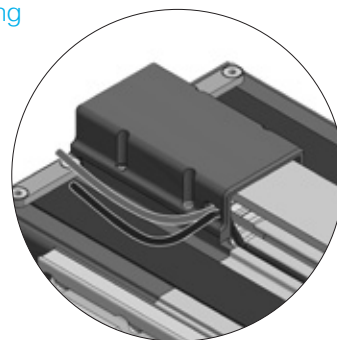

Figure 2.15 Cable guiding for inductive proximity switches AXE110Z
6.1 and **6.4** tighten with the screws **6.3**. It must be ensured that the cable guiding is carried out as shown in figure 2.15. An adjustment of the switching distance is not necessary. The upper profile groove should be closed by a groove insert **6.5**. The groove insert (ID number 173218, Catalogue Chapter 6.5) is not part of the limit switch set and must be ordered separately.